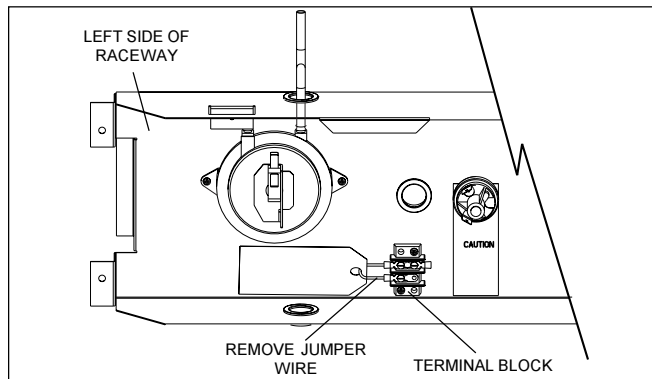

Figure 10. Remove Jumper from Terminal Block
To install a time clock auxiliary switch into the heater circuit, follow these instructions (see Figure 10):
2. Remove the factory installed jumper wire and tag from the terminal strip (see Figure 10).